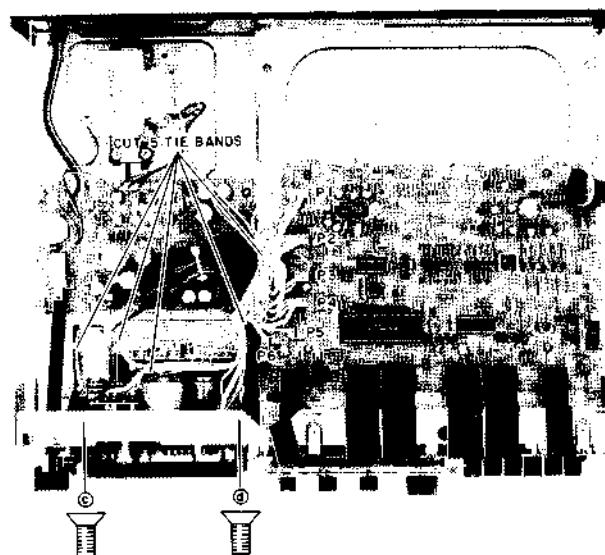

Fig. 4-4
- 2) Remove the six connectors P1—P6 from the SYS-CON PCB. Remove mechanism block securing screws ④ and ⑥. (See Fig. 4-4.)